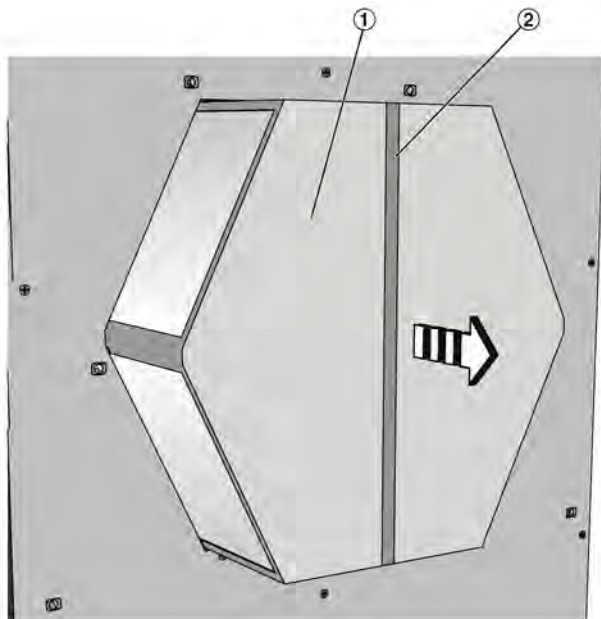

Fig. 31: Removing the heat recovery unit
3. ▶ Grasp the heat recovery unit (Fig. 31 /1) by the lug (Fig. 31 /2) and pull it out.
Rinse the heat recovery unit (Fig. 31 /1) with hot water (40 °C max.), e.g. by using a commercially available shower head.